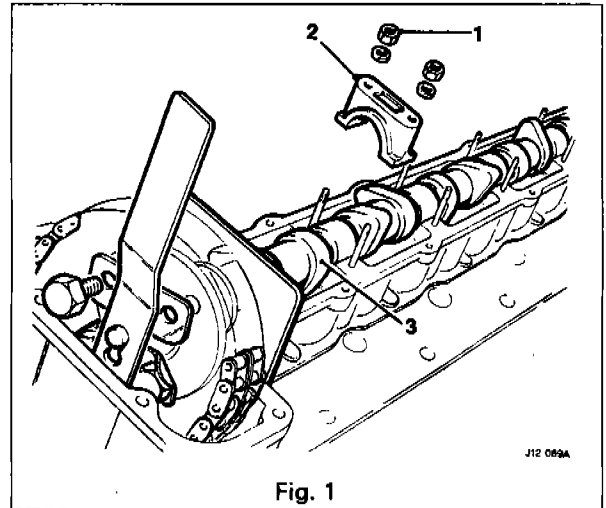

Fig. 1
- Gradually slacken off each camshaft cap securing nut (1 Fig. 1) two turns at a time until the valve springs are fully relaxed.
- Remove the nuts / washers and lift off the bearing caps (2 Fig. 1), and remove the left-hand camshaft (3 Fig. 1).
- Fit the bearing caps, washers and securing nuts, (1, 2 Fig. 1).
- Remove the securing nuts and bolts (1 Fig. 1), and remove the camshaft cover.
- Remove and discard the gasket (2 Fig. 1) and the half-moon seal (3 Fig. 1). Clean the mating faces and the half-moon seal seat.
- Apply sealant to the half-moon seal (3 Fig. 1) and seat in position. See Service Materials in the Preliminary Pages.
- Fit and align the new camshaft cover gasket, refit the camshaft cover and secure with nuts and bolts (1 Fig. 1).